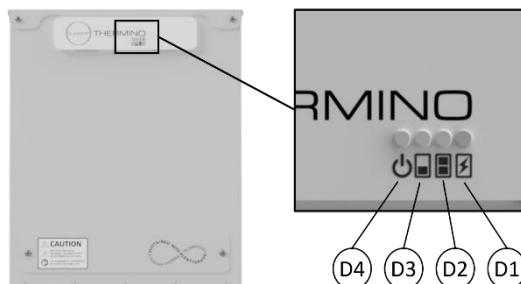

Figure 12 – Thermino ePlus Heat Battery LED operation
7. Check the front of the Heat Battery to ensure that the "power" and "heating element" LEDs are lit (see Figure 12 & Table 9).